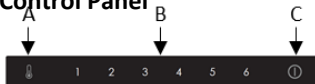

Fig.3
which can be activated by touching and holding sensors A and C in Fig. 3 for approximately 3 seconds. The refrigerator temperature adjustment sensor (A) will flash to confirm that the forced defrost function is active. This function should automatically deactivate once the freezer temperature has reached between 10 and 12°C.